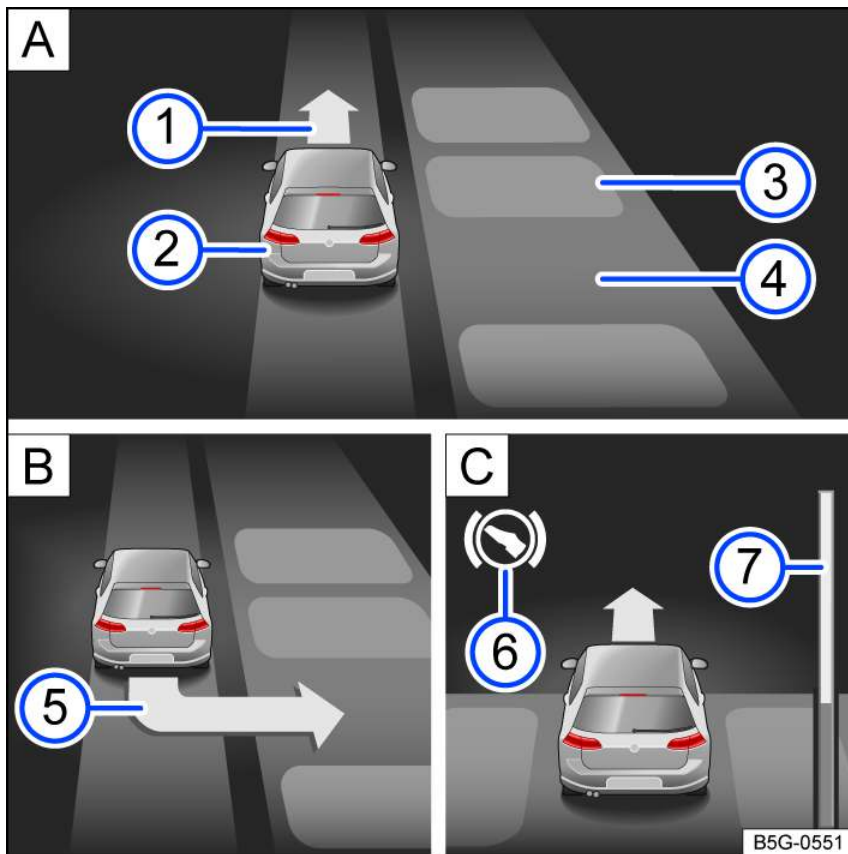

Fig. 110 In the instrument cluster display: parking perpendicular to the road.
2. Pay attention to the prompt for parking in the instrument cluster display fig. 110 5.